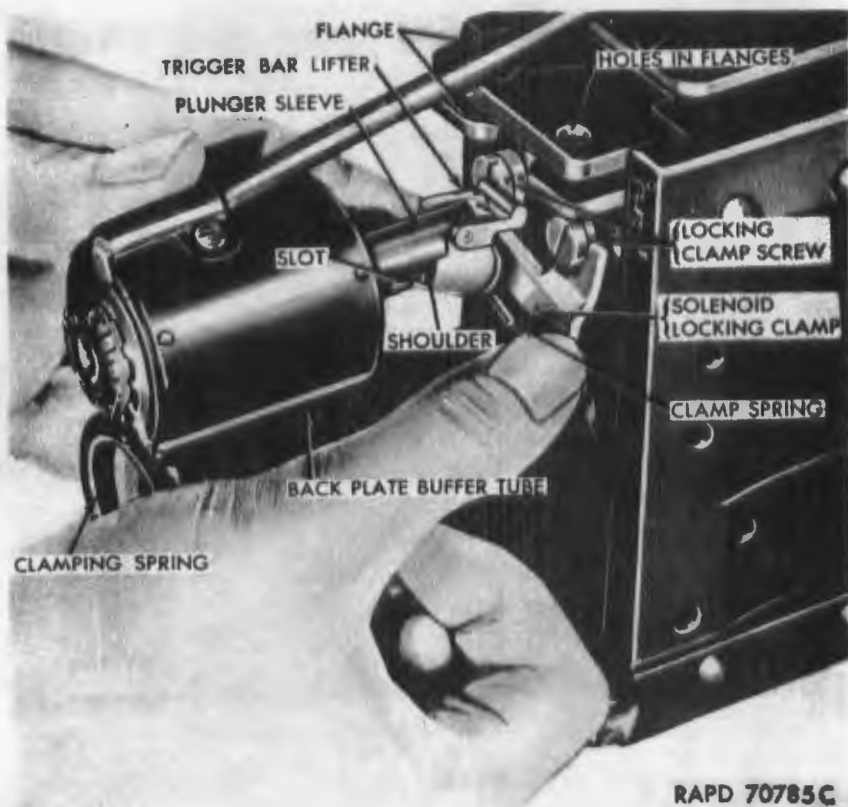

Figure 383. Installing firing solenoid.
Remove the backplate of the machine gun and the pin holding the backplate filler piece in the window of the backplate and remove the piece; install the backplate on the machine gun (FM 23-65). Mount the solenoid locking clamp on the backplate of the gun with two locking clamp screws so that the clamp spring bears on the backplate buffer tube (fig. 383). Loosen the bolts on the solenoid clamping rings and slide the rings over the backplate buffer tube. Depress the locking clamp with the right thumb, raise the trigger bar lifter with the left index finger, and slide
e. Removing the Firing Solenoid. Loosen the bolts on the solenoid clamping rings (fig. 377), depress the solenoid locking clamp, and slide the solenoid from the backplate buffer tube (fig. 383). If necessary, remove the two locking clamp screws from the backplate to remove the solenoid locking clamp (fig. 383); then remove the backplate from the gun, and install the backplate filler piece, pin, and backplate (FM 23-65).